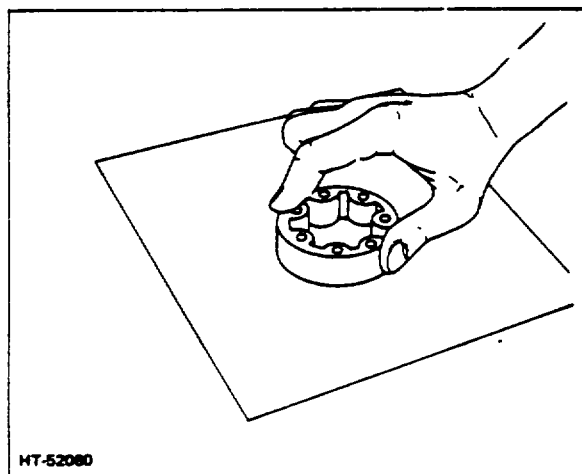

Figure 3-13. Polishing the Ring Gear
- Lightly clean up both sides of the ring gear, both sides of the plate, the 14 hole end of the housing, and the flat side of the end cap. Stroke each surface across the abrasive several times and check the results (Fig 3-13). Any small bright areas indicates a burr which must be removed. When polishing the parts, hold them as flat as possible against the abrasive. After 6 to 10 strokes across the abrasive, check the part to see if it is polished. After each parts is polished, rinse clean in solvent, blow dry with air, and place it where it can remain absolutely clean until reassembly.